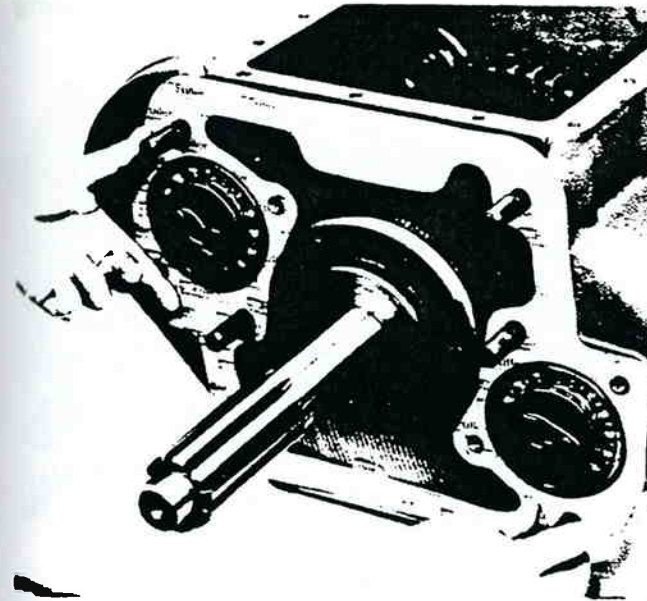

Figure 13-159. Clutch Housing Gasket.
1. Apply white grease to new clutch housing gasket and install in position on case (figure 13-159).